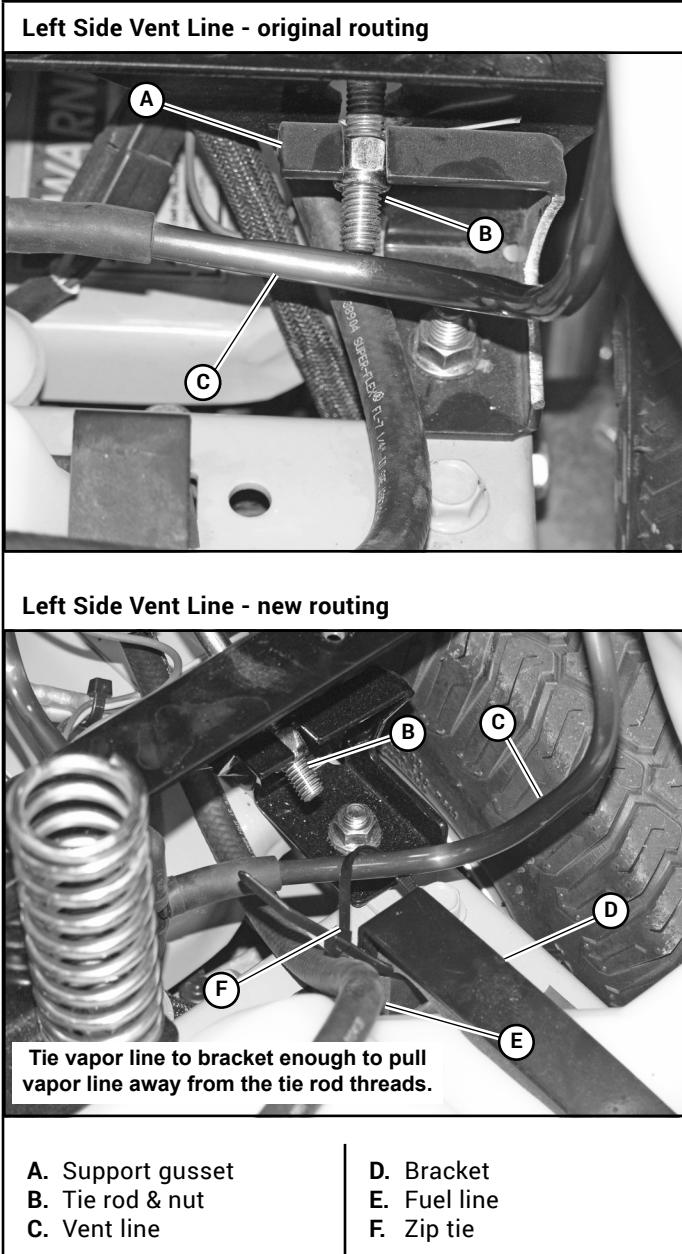
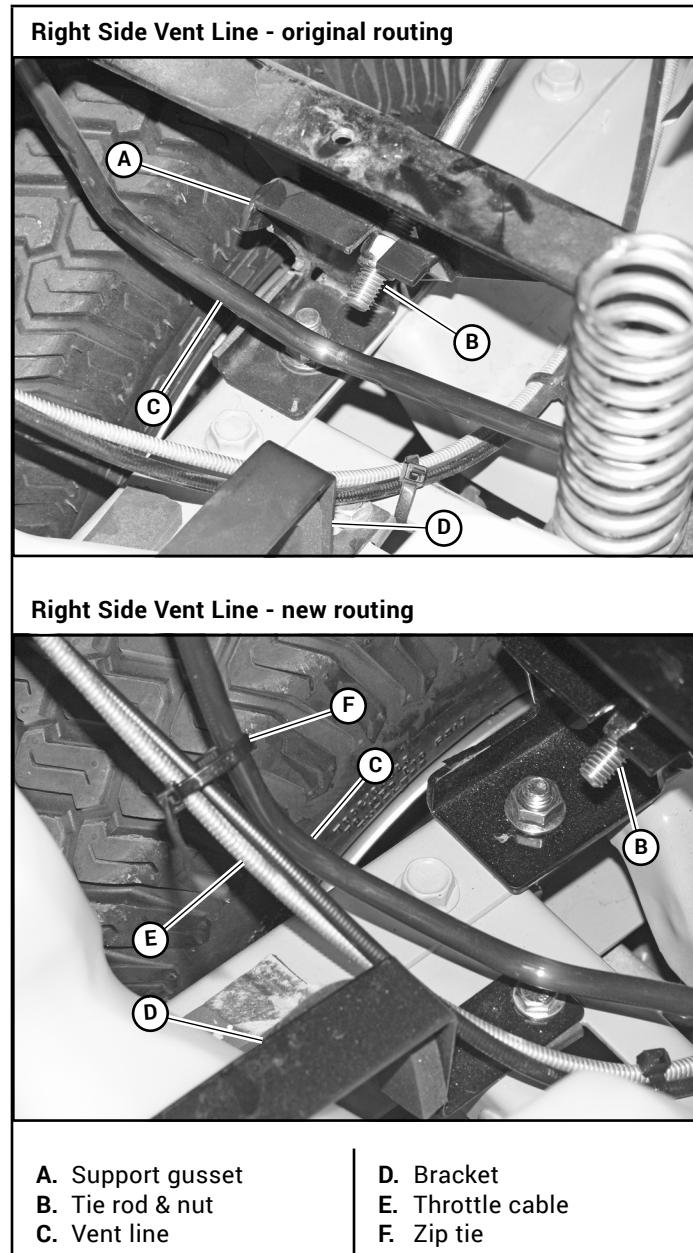

Figure 3-20
Figure 3-21
27. Secure the vapor lines using the zip ties as shown. You **must** secure the vapor lines to prevent them from rubbing on the tie rods. Remove the excess zip tie. Figure 3-20 & Figure 3-21